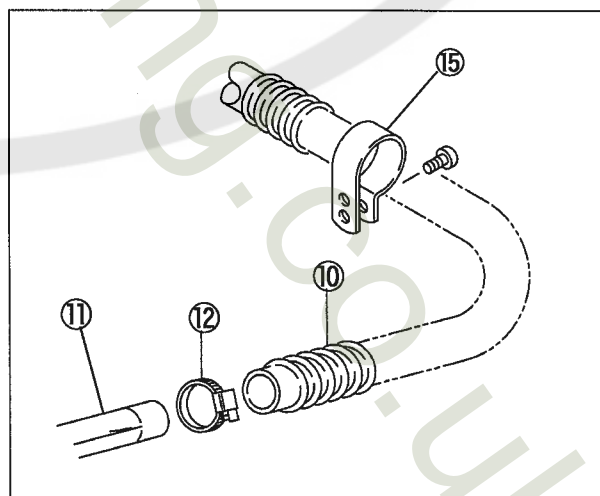

Fig. 11
- (3) Insert the suction hose ⑩ into the exhaust side of suction pipe C. set ⑪ and fix it with the hose band ⑫. (Fig. 11)